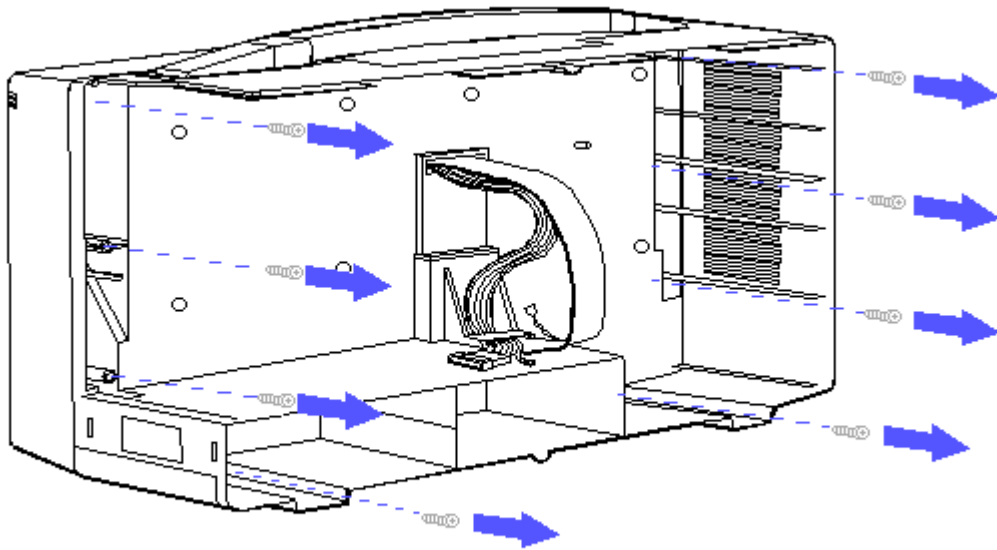

Figure 8-66. Removing the Front Main Bezel Screws
16. Remove the eight screws that secure the front main bezel to the main housing enclosure (Figure 8-66).